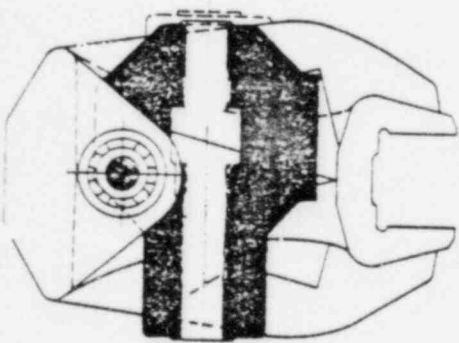

FIG. 6
- Figures 6, 7, 8 & 9 - Upper Drive Case Assembly
Refer to Drawings 5270-03, 5270-02, 5270-01, 5212-01 and Figures 6 thru 9.
2. Loosely assemble the hanger bracket sub-assembly and crosshead sub-assembly as shown in Figure 6.